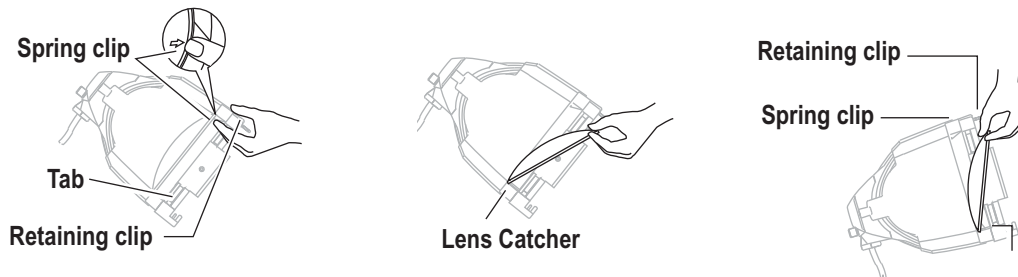

Figure 6
Step 11: Hold the lens by the edge and position it so the wave side faces the rear of the luminaire. See Figure 6.